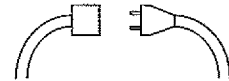

Fig. 1
1. Connect the power cord plug to the extension cord (Fig. 1).
3. Disconnect the power cord plug from the extension cord (Fig. 1).